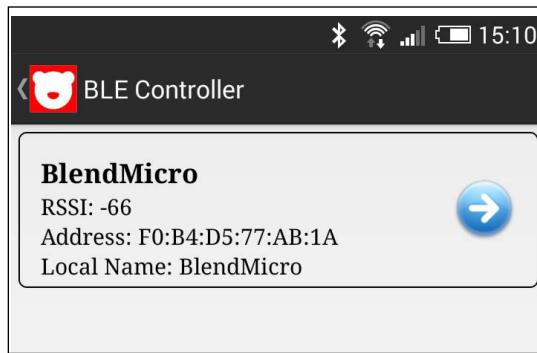
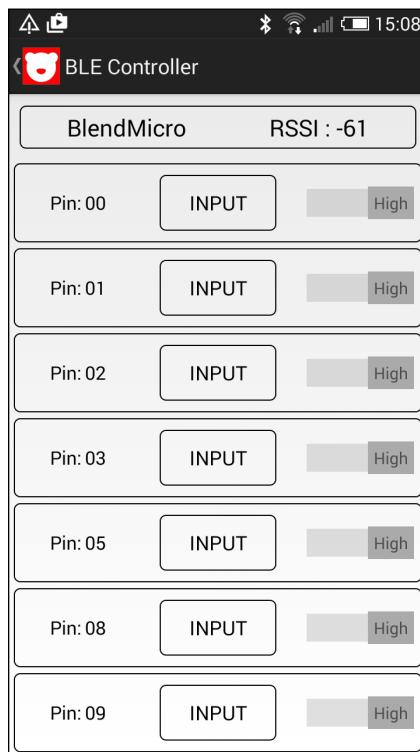

Figure 7.5: Scanning for BLE devices
Figure 7.6: The options for direct pin control
Choose the BLE Controller and you will be prompted with a screen and **Scan** button. Press the **Scan** button and the application will start searching for BLE devices in your vicinity. If the Blend Micro is powered, it should find it within a few seconds as shown in *Figure 7.5*:
*Figure 7.5* shows the expected result of the scan. It shows the local name (which is Blend Micro) and the actual MAC address of the BLE chips, which is a unique address for your particular chip and board. Press the arrow button and wait a few seconds for the application to pair with your board. Once paired, the interface as shown in *Figure 7.6* should appear: